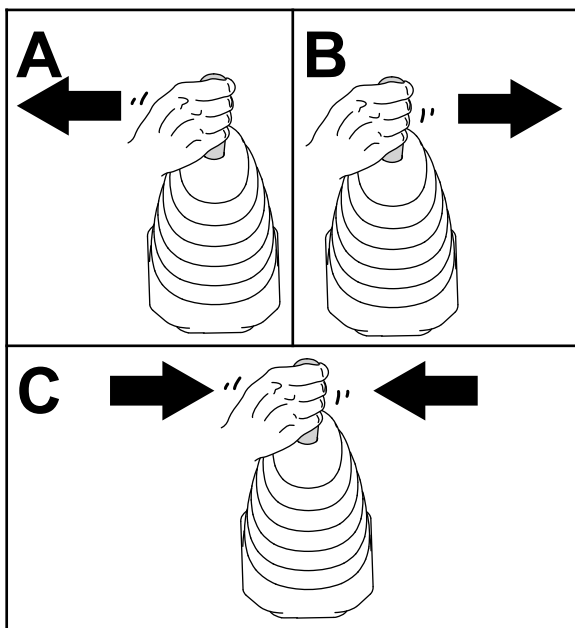

Figure 53
4. Move the loader joystick to the left, right, and back to the NEUTRAL position to relieve pressure at the hydraulic couplers (Figure 53).